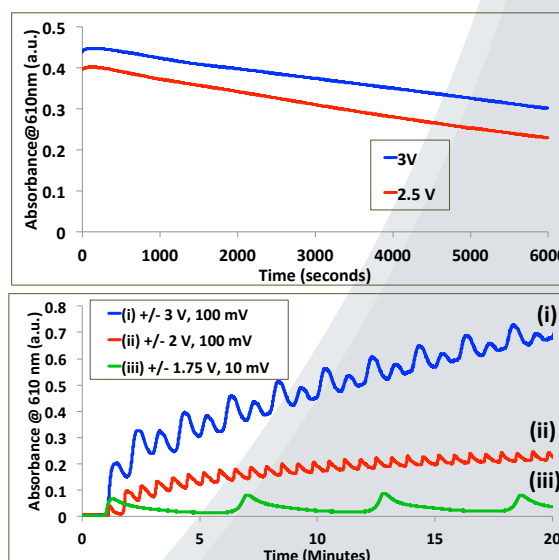

Figure 4: Kinetic profile of the reduced state of various ECD's under differing current conditions. (Top) D.C., open circuit (Bottom) A.C., Two electrode cell.
- Figure 4 (bottom) shows the steps taken to optimise the colouration reversibility of the ECD.